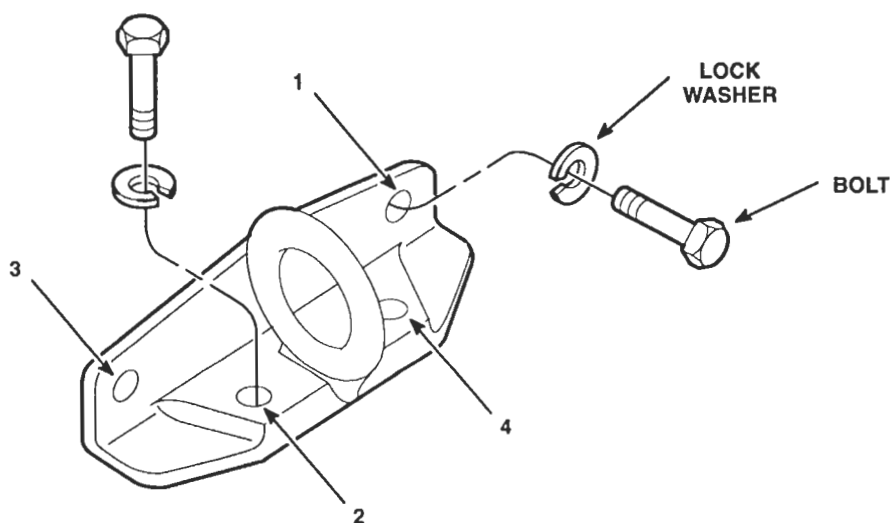

Figure 2. Engine Lifter Bracket and Bolt Tightening Sequence
4. Install the bolts finger tight, draw them down snug and then tighten to the specified torque. Draw the bolts down in the proper sequence (Figure 2.) for each of these steps to draw the mating parts together evenly, thus providing a good seal. Tighten the bolts to 55–60 lb·ft (75–81 N·m) torque.